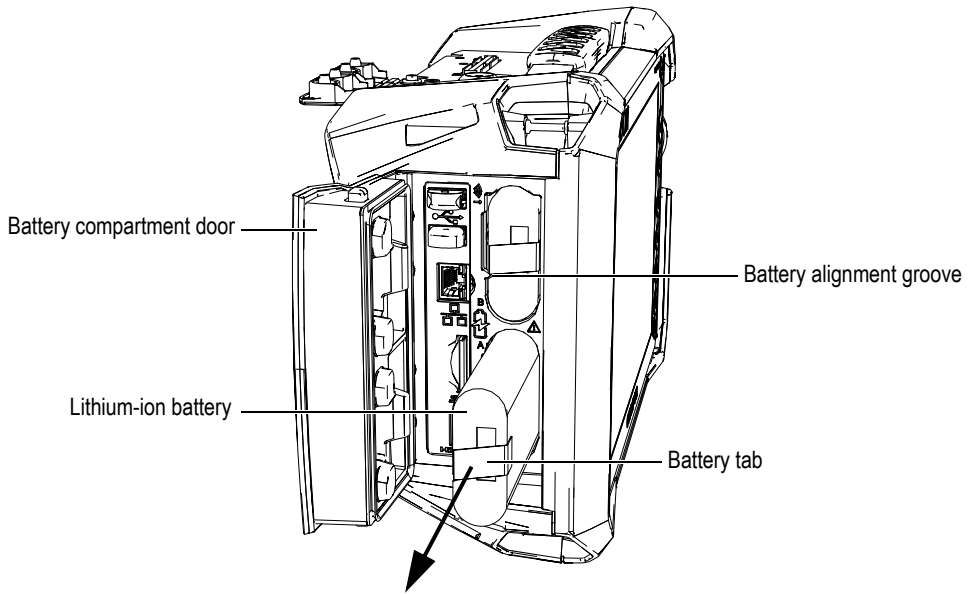

Figure 3-3 Removing a lithium-ion battery
2. Push the battery inward, then pull leftward on the battery tab, and pull the battery out (see Figure 3-3 on page 43).